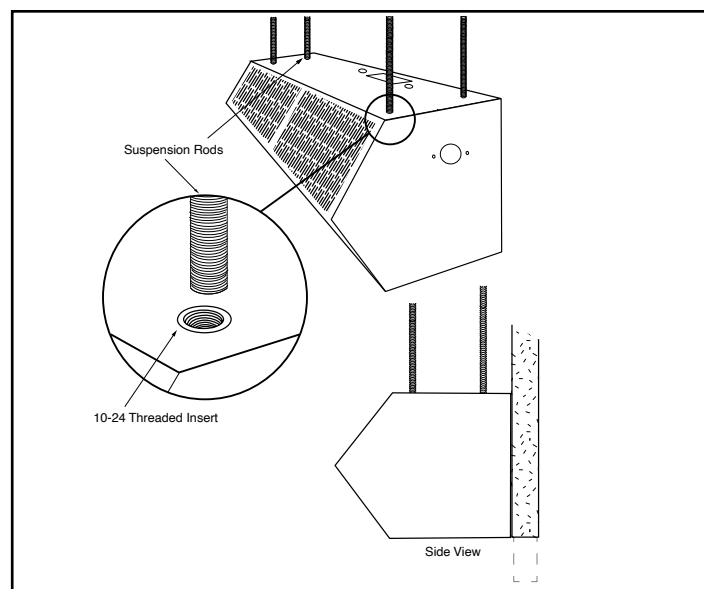

FIGURE 5 - Suspended Mounting
- B. Four (4) factory installed #10-24 threaded inserts are located on the top of the unit for top suspension mounting. **See FIGURE 5.**